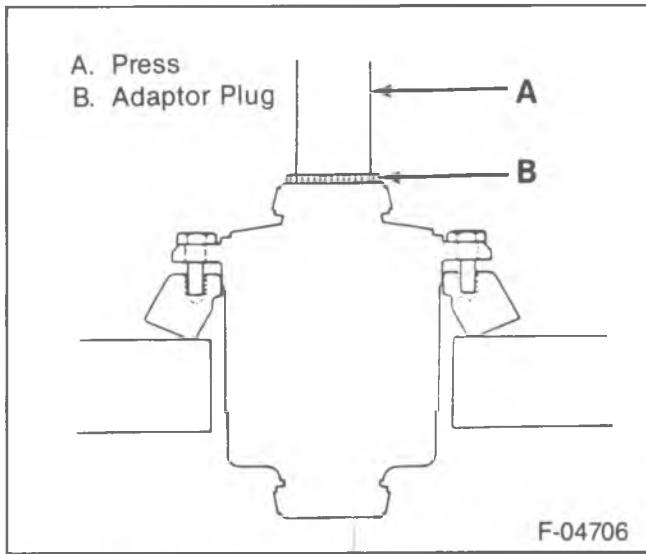
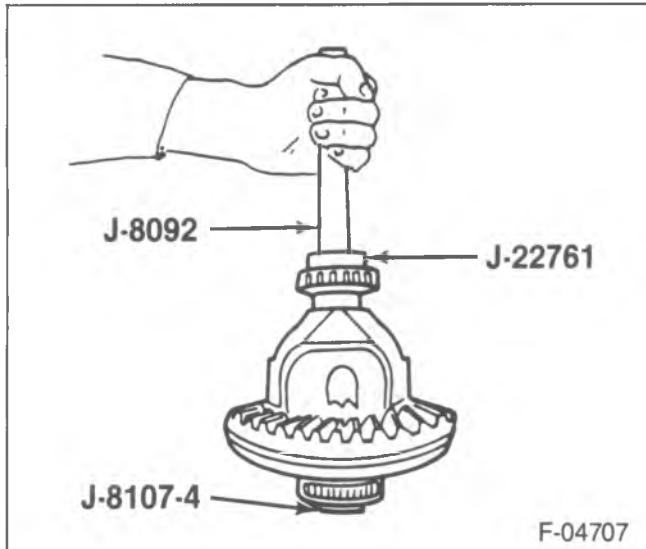

Figure 35—Installing the Ring Gear to the Case
Figure 36—Differential Bearing Installation
- Press the ring gear onto the case far enough to start the bolts using J-8107-4 to protect the differential from the press ram (figure 35).
- 6. New ring gear bolts (23).
- 7. Differential side bearings (8) using J-22761, J-8107-4 and J-8092 (figure 36).